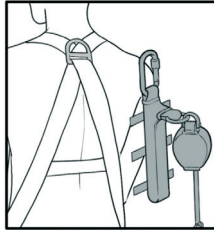

fig.1
1. Position the DSL2 such that the Velcro closings are in contact with the harness web, leaving the shock absorbing pack outermost (fig.1).